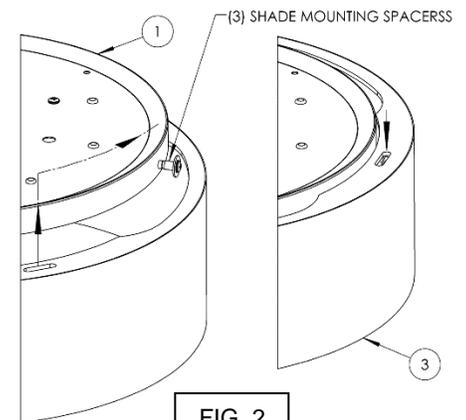

FIG. 2
- Raise the shade (3) up to the ceiling through the larger part of the opening in the top of the shade past three mounting spacers in the pan (1) per figure 2.
Step 2 – Assembling Fixture (Fig. 2, 3)
- Insert fixture five power wires through stems (13, 10, 9, and 8) (Fig. 2) up to the canopy (6).